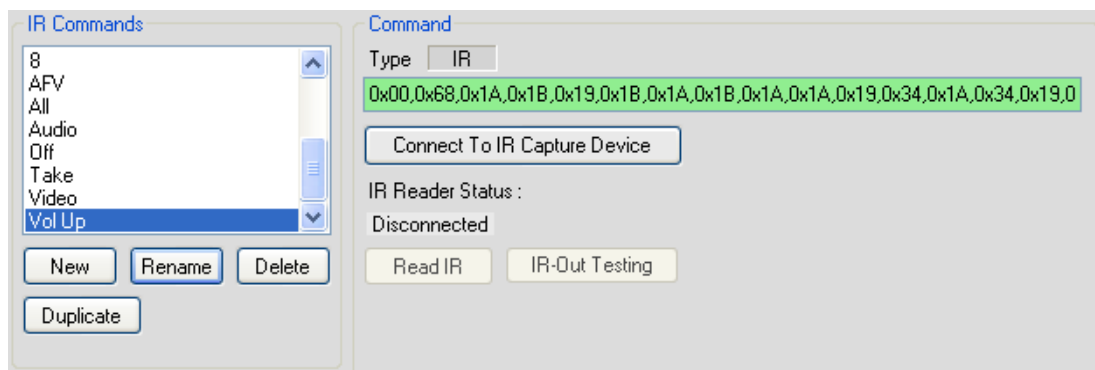

Figure 137: IR Command Area Window
4. Press the appropriate button on the remote control transmitter. The command area displays the following message: “IR command reading”. The IR command appears, as illustrated in Figure 137: